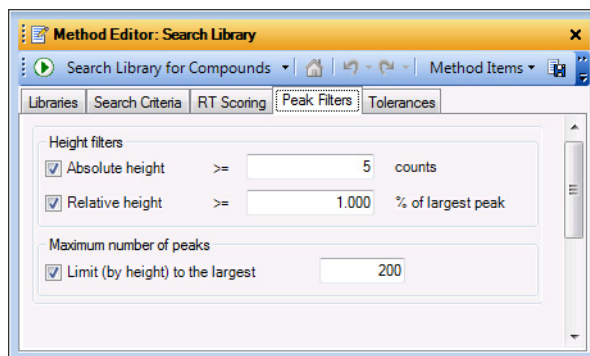

Figure 21 Peak Filters tab.
- e In the **Peak Filters** tab, set the **Absolute height** to **5** counts and the **Relative height** to **1% of largest peak**. See Figure 21.